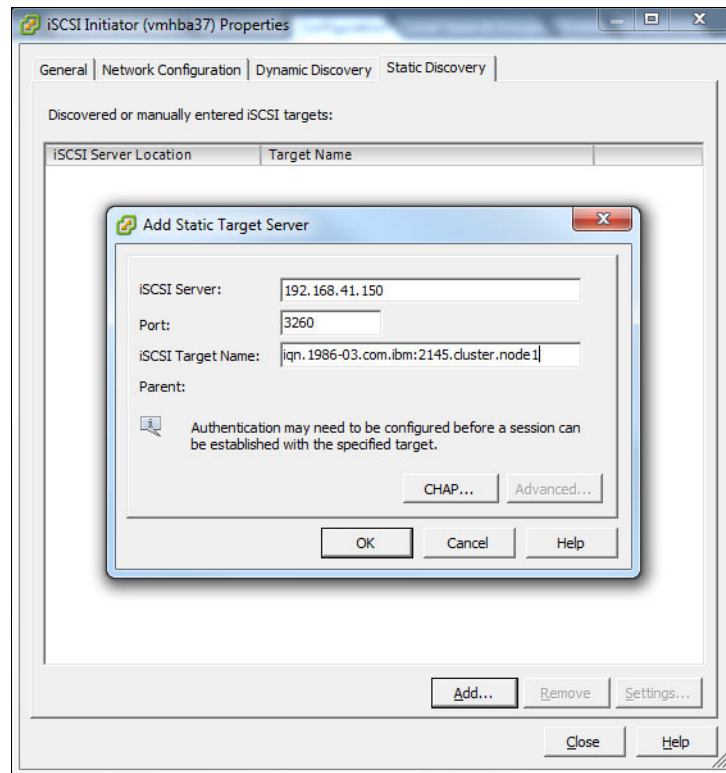

Figure 7-43 Adding a Static Target Server
4. Enter the IP address and IQN of the target, as shown in Figure 7-43.